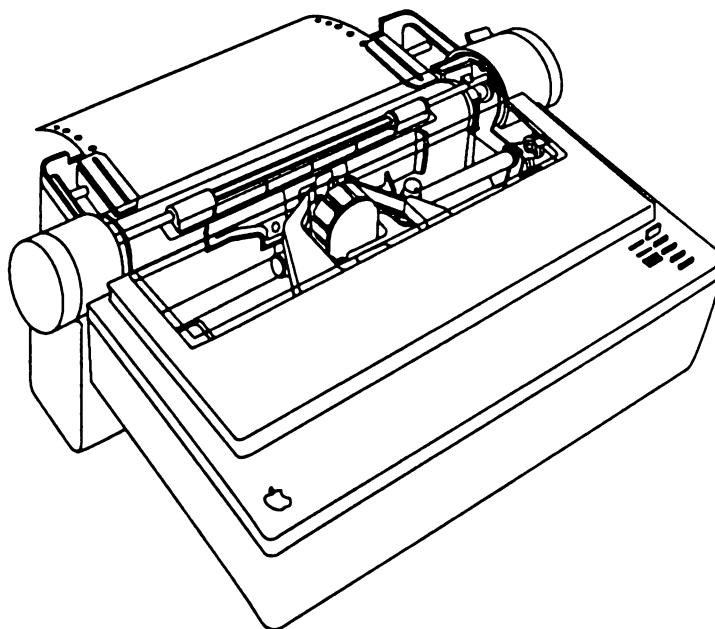

Figure 14. Properly aligned pin-feed paper
11. Press the right-margin tractor release lever into the down position. Figure 14 shows a properly aligned sheet of pin-feed paper.